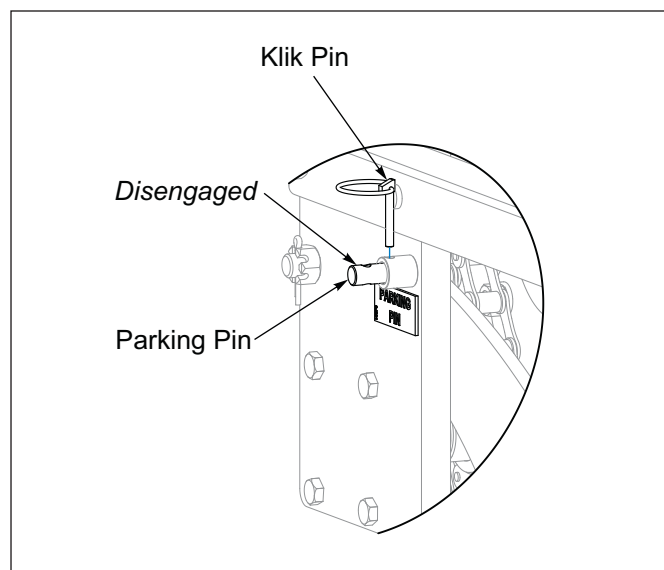

Figure 3-3: Parking Pin Disengaged
10. Raise seeder. Remove Parking Pin. **See Figure 3-3.** Adjust or lock tractor sway stabilizers if equipped, centering the Seeder with the Tractor. **Refer to the Tractor Operator's Manual.**